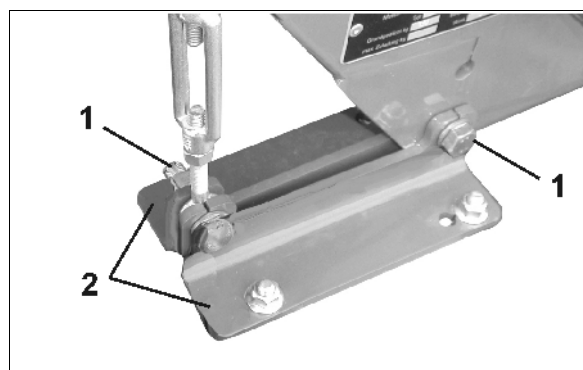

Fig. 24
- 3.1 Left : Unscrew 2 screw connections (Fig. 24/1) and remove 2 coupling parts (Fig. 24/2).